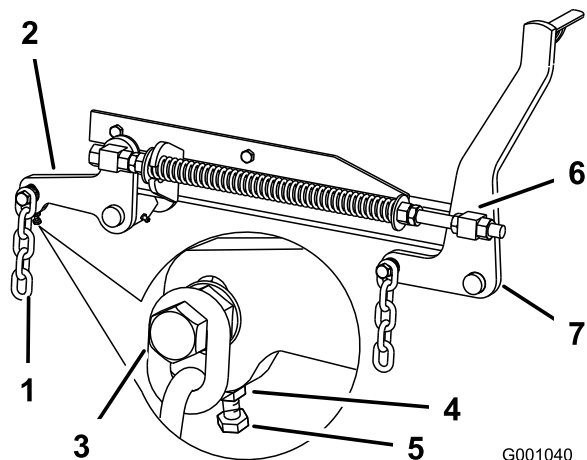

Figure 83
- If the measurements at positions **B** or **C** are not correct, loosen the bolt attaching the rear chain to the rear support arm (Figure 83).
- Loosen the jam nut under the rear support arm and adjust the adjustment bolt to get a measurement of 3-1/8 to 3-1/4 inches (80 to 83 mm) (Figure 83).
- Loosen the front swivel jam nuts, at the front of the right and left swivels, approximately a 1/2 inch (13 mm) (Figure 83).
- Adjust the lift nuts on both the left and the right side of the machine to achieve 1/4 to 3/8 inch (6 to 10 mm) lower in front at **A** than in the rear at **B** (Figure 83).